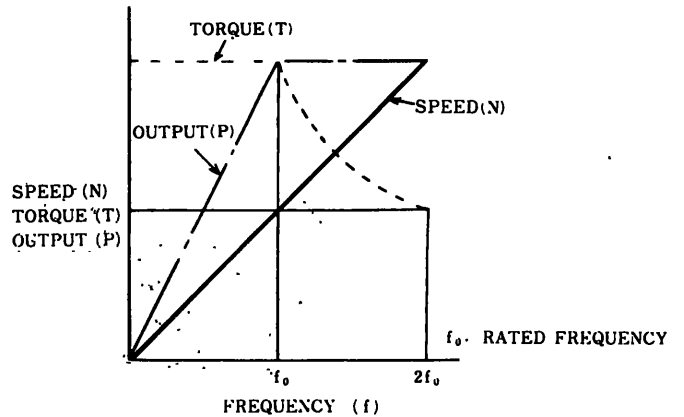

Fig. 1.2 Constant Output Characteristics
The torque T of motors, with the slip frequency f_{SL} kept constant, is in proportion to $(V/f)^2$, from Eq. (4). When V/f is kept constant, the torque is kept constant. In actual operation, the slip frequency f_{SL} increases above the rated frequency. With motors with the maximum torque over 250% of the rated torque, a constant output power characteristic curve as shown in Fig. 1.2 is obtained.